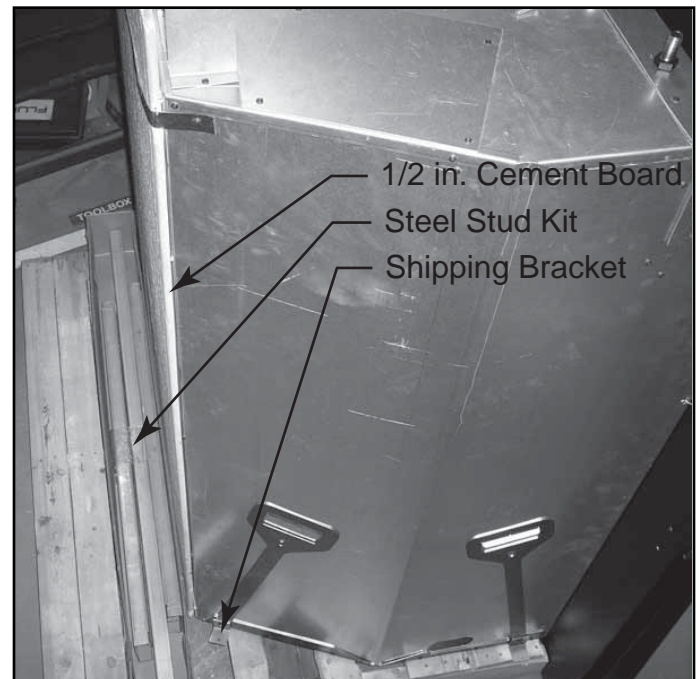

Figure 4.2 Shipping Locations
- Carefully remove the appliance and components from the packaging (refer to Figure 4.2).